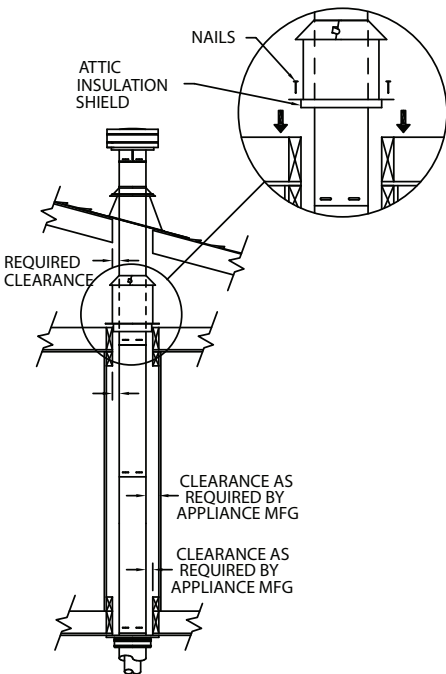

Figure 19
(1) For multi-story vertical installations, a Ceiling Firestop is required at the second floor, and any subsequent floors (Fig. 19). Refer to Table 1, page 8. Cut and frame a square opening for installation of the Ceiling Firestop.
(2) If Vent passes through any occupied areas above the first floor, including closets and storage spaces, it must be enclosed. The enclosure may be framed and sheetrocked with standard construction materials, but required clearances to combustibles
(3) If venting system passes through an attic space the Attic Insulation Shield or a chase enclosure must be installed to prevent contact between Pipe Sections and the insulation or other debris. For the Attic Insulation Shield, nail the base to floor of attic and adjust shield for appropriate insulation level, then attach the collar at the top of assembly (**Fig. 19**). For a chase enclosure, it may be constructed out of sheetrock or similar building materials and framed around the support box or the pipe, maintaining the clearance to combustibles as required by the appliance manufacturer. For vaulted ceilings a chase enclosure must be constructed as the Attic Insulation Shield can not be installed.